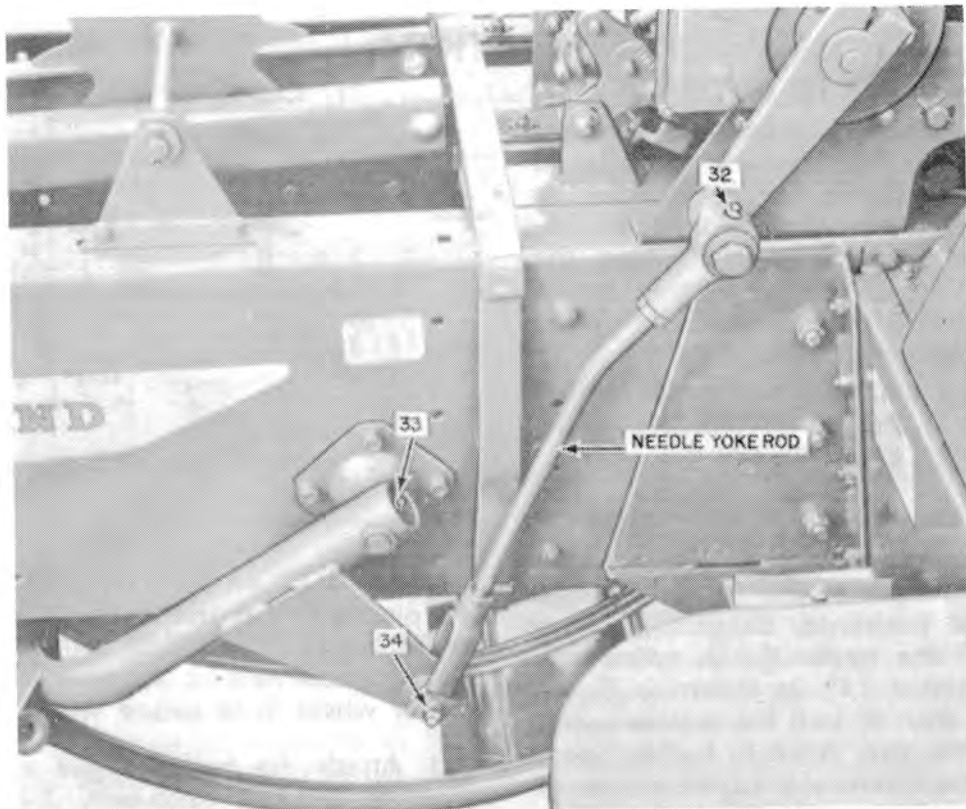

FIGURE 8
32. Figure 8 — Knotter arm.
33. Figure 8 — Right needle yoke pivot.
34. Figure 8 — Drag link pivot pin.